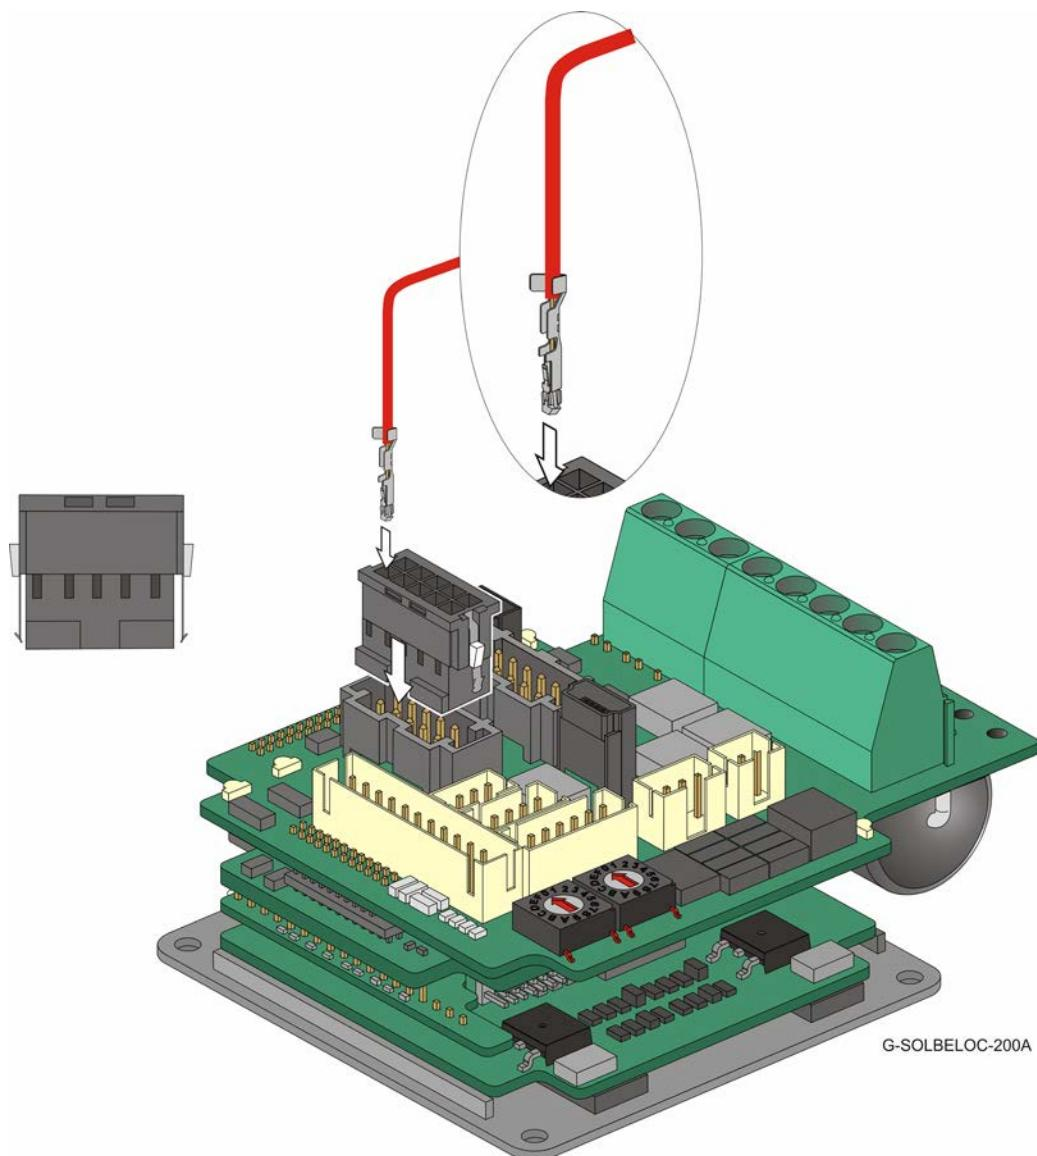

Figure 2: Inserting a wire/pin to the Female Connector
3. Place the connector on a flat surface, in the orientation as shown in Figure 2.
4. Insert the wire connector to the slot as shown in Figure 2. Make sure that the connector protrusion is inserted to the bottom of the rectangular slot.